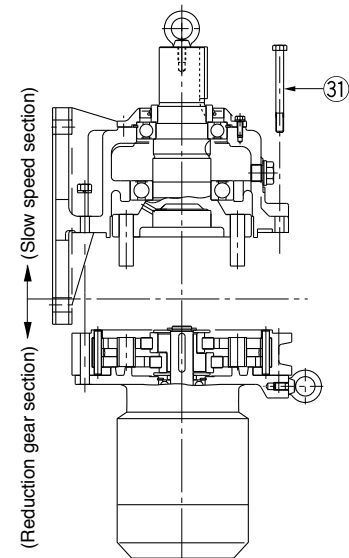

Fig. 22
- (1) Since wear and tear on the oil seals, collars, gaskets, oil signal, etc. may lead to oil leakage, they should be replaced with new parts in accordance with the procedures described in Table 30 on Page 25.
- (2) When assembling balance weight (**Frame size 6060~6095**), the stamped face of the weight should be facing the front side.
- (3) Replacement of the eccentric bearing
- (**Frame size 606□, 607□, refer to Fig. 22**)